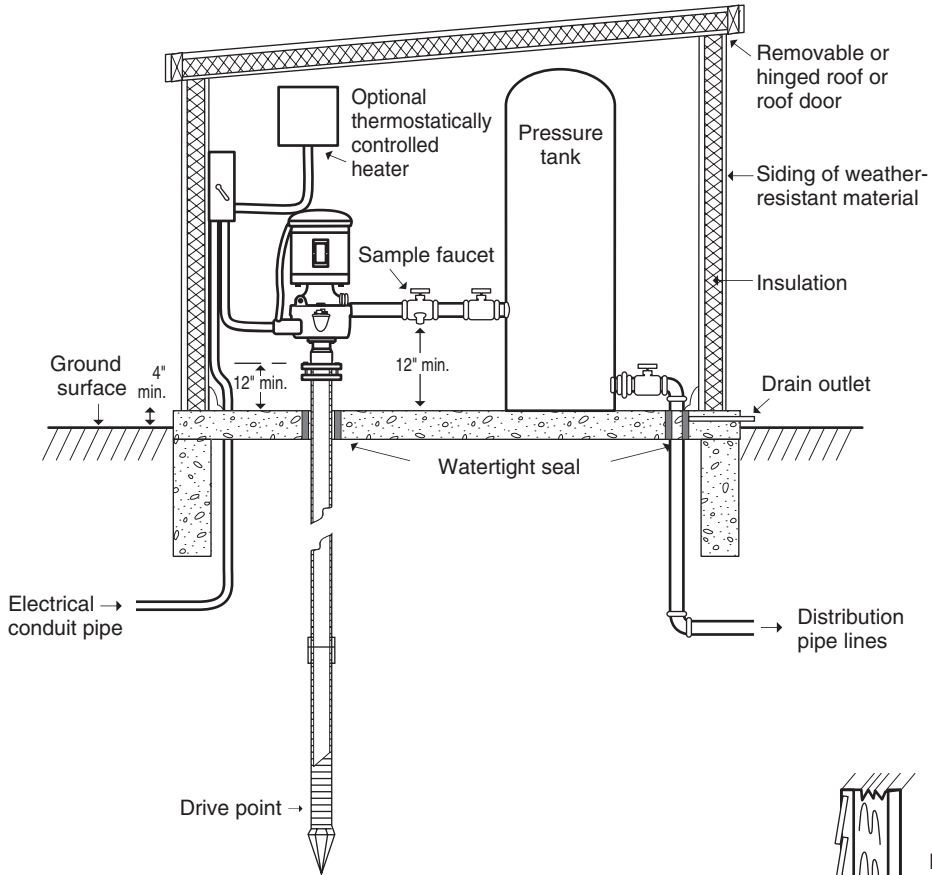

Figure 4.
- ▼ **Cap:** The top of the drive-pipe must be sealed with a vermin-proof cap such as a threaded cap that will prevent the entry of insects and mice. Many pumps are directly connected to the well pipe as, for example, in Figure 4. A sanitary well seal with compressible gaskets must be used for such installations.
- ▼ An above-ground building or pump house (Figure 4).